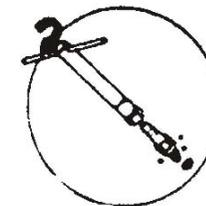

Figure 42
3.5 Re-mount the spark plug and its cap. (Figure 42)